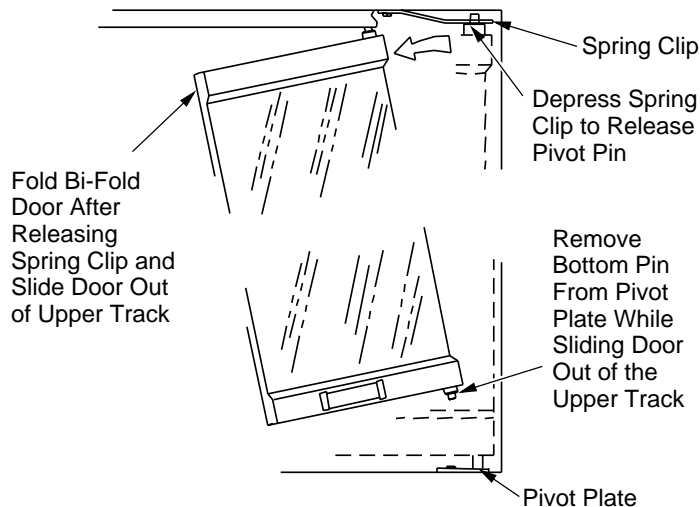

Figure 35 - Removing Glass Doors
- Fully fold the frame assembly and slide the upper edge towards the center of the firebox opening until the guide pins are free of the frame rail (see Figure 35).